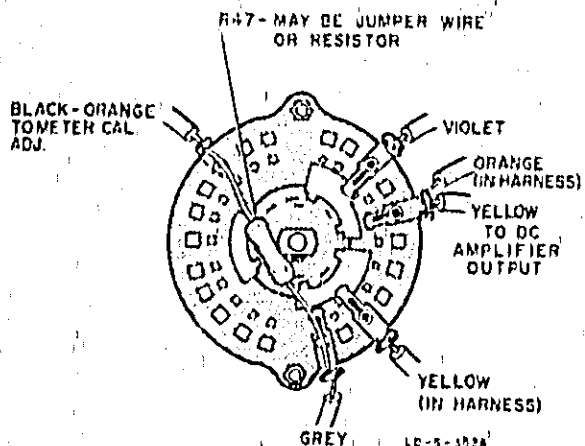

Figure 3. Polarity Switch Wiring
14) Refer to figure 3. Unsolder yellow wire (to DC AMP terminals at rear) and black-orange wire (to R46, METER CAL control) from POLARITY switch.